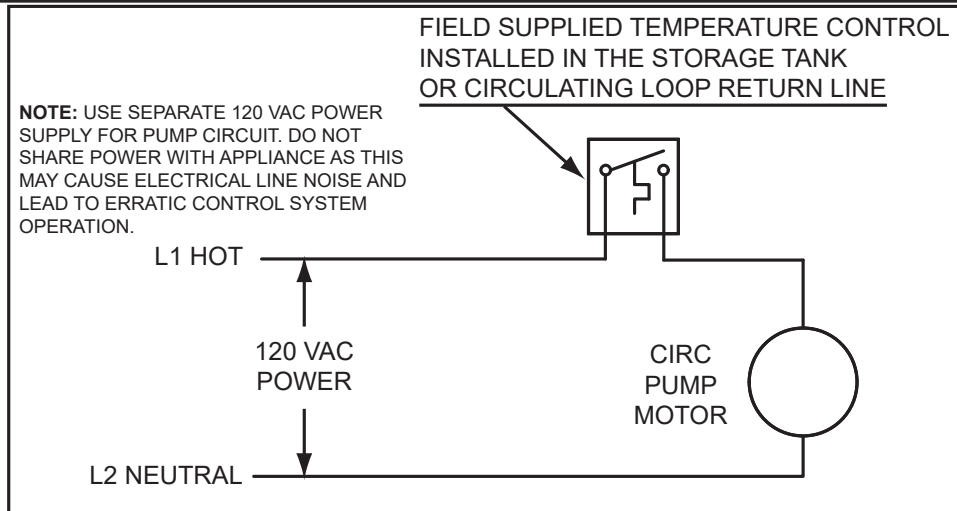

Figure 72. Circulating Pump Wiring Diagram - Storage Tank or Building Recirculation
7. If a pump is being installed between a water heater and storage tank or on a building recirculation loop wire according to *Figure 72* (page 100).
6. If a pump is being installed between a water heater and storage tank or on a building recirculation loop wire according to **Figure 72** (page 100).